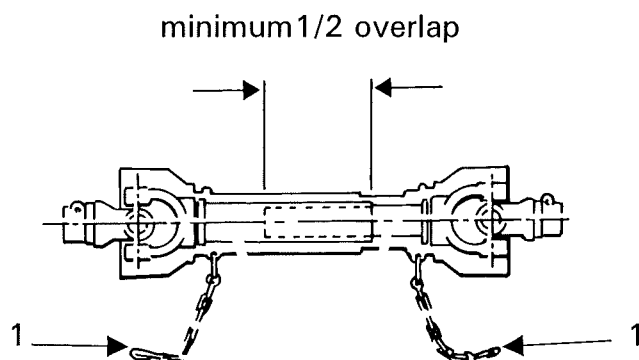

Fig 2
Ensure that the safety chains (item 1, fig 2) used to prevent the guards from turning, are fixed to the tractor and implement in such a way that they will not be stretched when the drive shaft is at maximum articulation. When disconnected from the tractor, position the PTO shaft on the drawbar PTO rest.